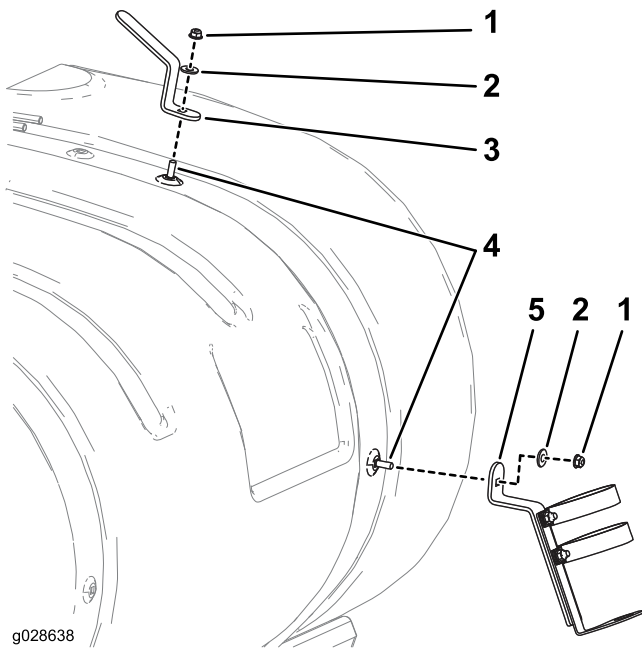

Figure 3
1. Loosen the front tank strap on the right hand side (Figure 3).
2. Install the spray-gun bracket assembly as shown in Figure 3 using a carriage bolt (5/16 x 3/4 inch), a washer (3/8 inch), and a locknut (5/16 inch).
3. Install the hose hook as shown in Figure 3 using a carriage bolt (5/16 x 3/4 inch), a washer (3/8 inch), and a locknut (5/16 inch).